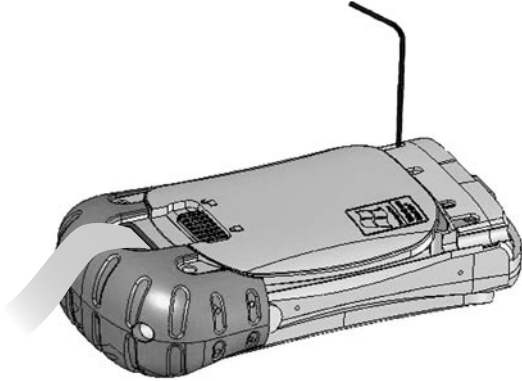

Figure 3: Placement of the hex wrench to finish loosening screws
8. Once each screw is loose, return to the first screw and place the hex wrench so the tall end is on the screw head (see Fig. 3). Remove the screw from the slot.
CAUTION: It is possible to over-tighten the screws and strip the screw hole threads. To avoid this, tighten the screws using the long end of the hex wrench on the screw heads as shown in Figure 3. If you accidentally strip the threads, contact your service center to schedule a repair.